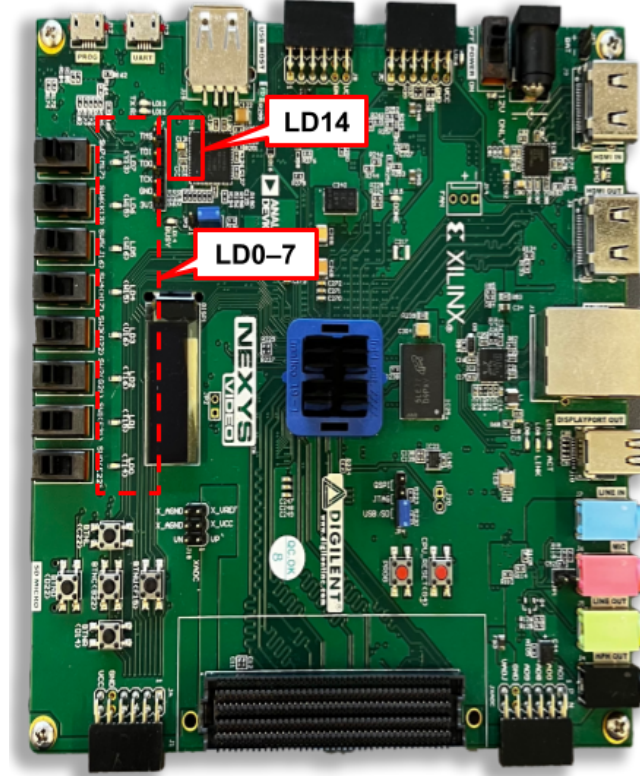

Figure 4. Status LED locations on Nexys Card.
5. Wait for LD14 (Figure 4) should turn solid yellow on power-up, and turn off once the firmware is loaded.